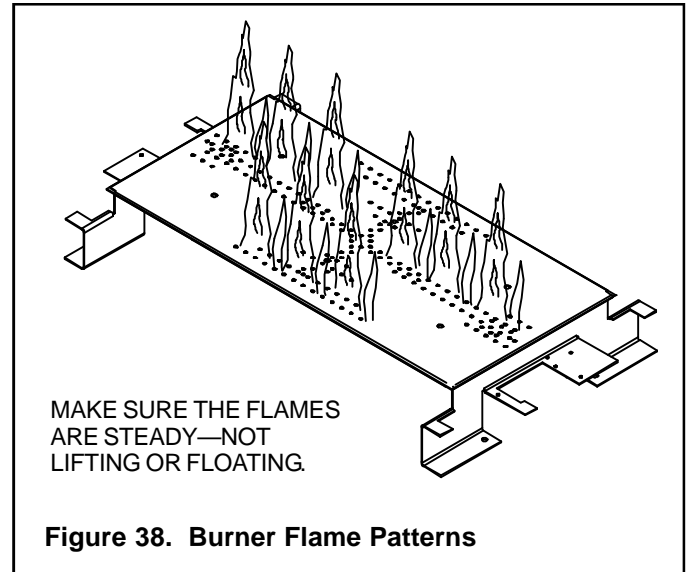

Figure 38. Burner Flame Patterns
- ◆ See Figure 38. The flame sensor (IPI) or thermopile/thermocouple (standing pilot) tips should be covered with flame. See Figure 30.